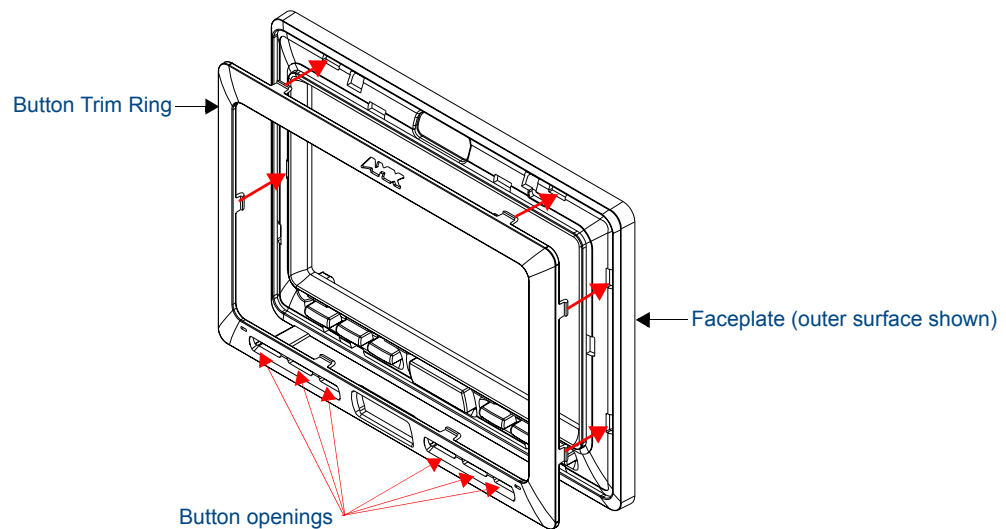

FIG. 12 Inserting the Button Trim Ring
7. Gently insert the Button Trim Ring latches into their corresponding openings on the outer surface of the internal Faceplate (FIG. 12).